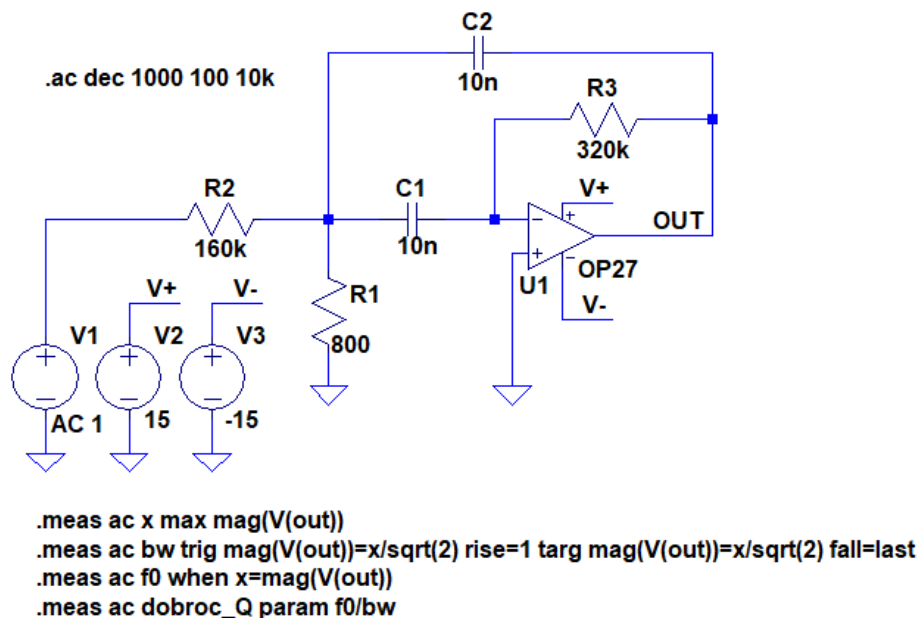

Fig. 10. Diagram of the tested filter system.
1. Create a filter system diagram as shown in Fig. 10.
2. Set the values of elements according to Fig. 10.